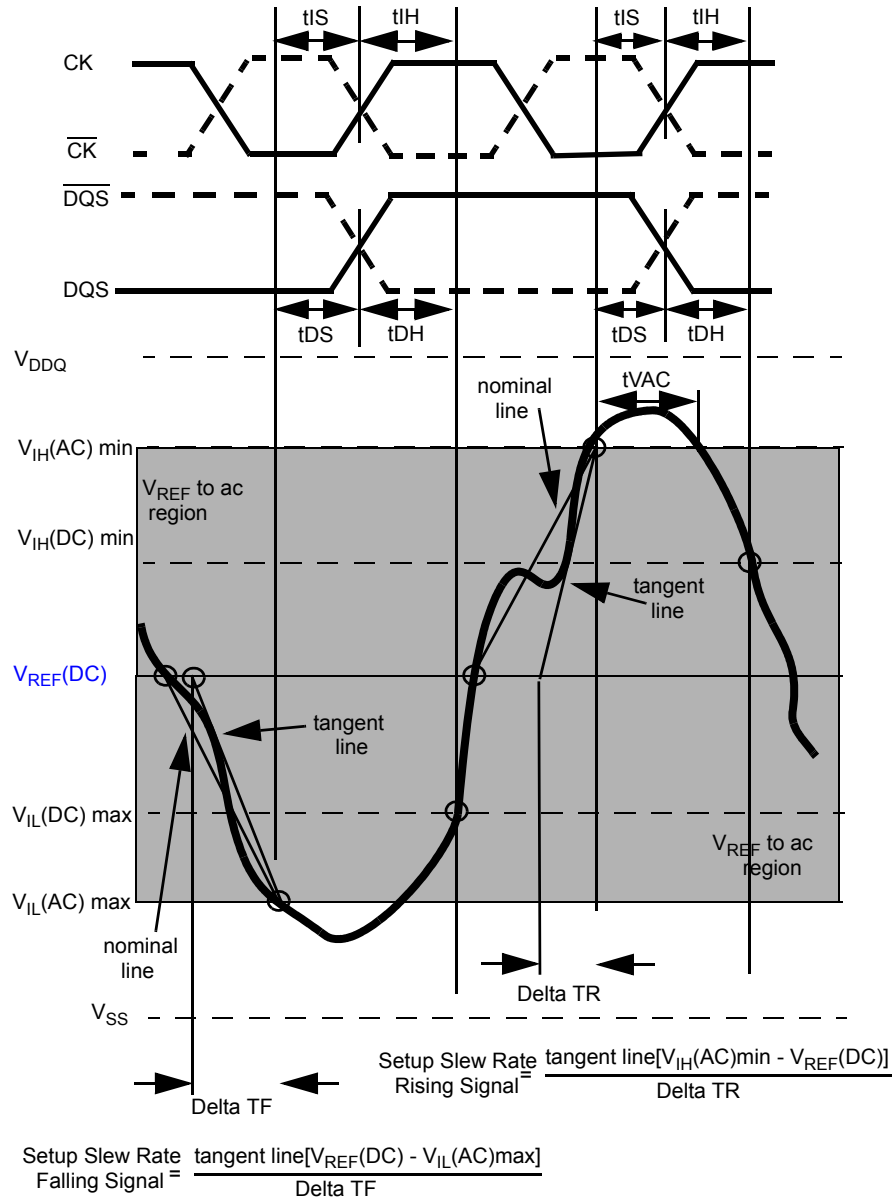

Figure 23. Illustration of tangent line for setup time  $t_{DS}$  (for DQ with respect to strobe) and  $t_{IS}$  (for ADD/CMD with respect to clock)
Example: tIS (total setup time) = tIS(base) + ΔtIS Setup (tIS) nominal slew rate for a rising signal is defined as the slew rate between the last crossing of VREF(DC) and the first crossing of VIH(AC)min. Setup (tIS) nominal slew rate for a falling signal is defined as the slew rate between the last crossing of VREF(DC) and the first crossing of VIL(AC)max. If the actual signal is always earlier than the nominal slew rate line between shaded 'VREF(DC) to ac region', use nominal slew rate for derating value (see Figure 23). If the actual signal is later than the nominal slew rate line anywhere between shaded 'VREF(DC) to ac region', the slew rate of a tangent line to the actual signal from the ac level to dc level is used for derating value (see Figure 25).